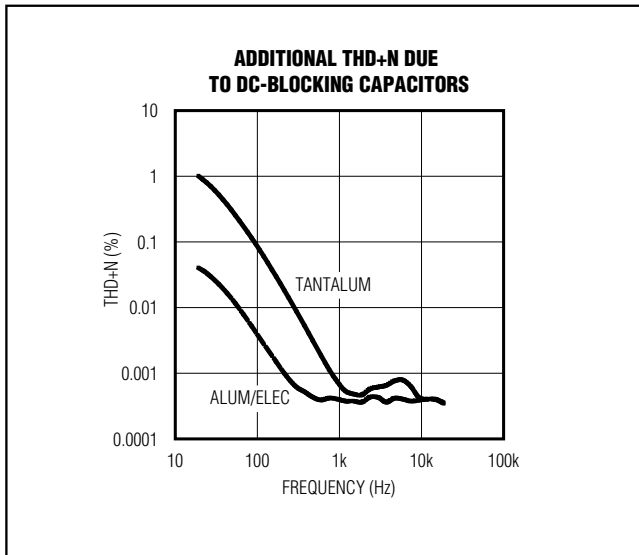

Figure 4. Distortion Contributed by DC-Blocking Capacitors
- 2) The voltage coefficient of the capacitor, the change in capacitance due to a change in the voltage across the capacitor, distorts the audio signal. At frequencies around the -3dB point, the reactance of the capacitor dominates, and the voltage coefficient appears as frequency-dependent distortion. Figure 4 shows the THD+N introduced by two different capacitor dielectrics. Note that around the -3dB point, THD+N increases dramatically.